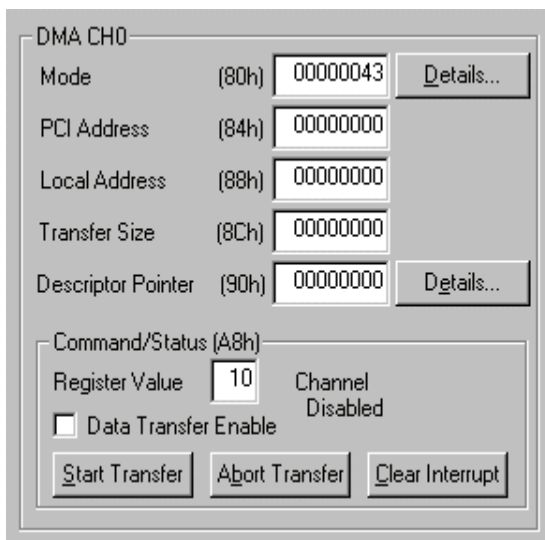
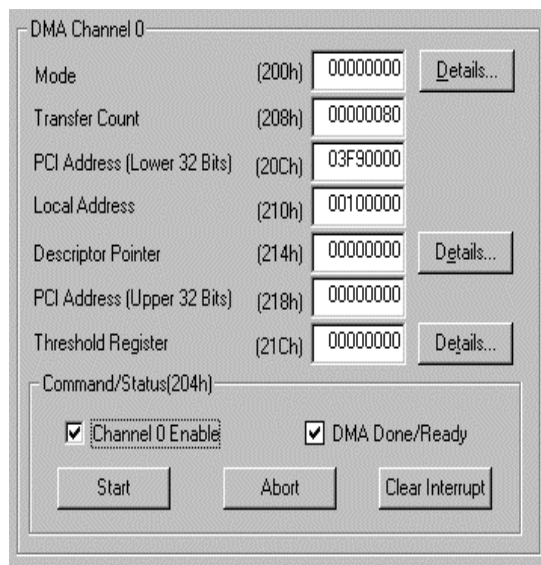

Figure 2-6. PCI 9080 and 9054 DMA Channel 0 Registers
Figure 2-7. IOP 480 DMA Channel 0 Registers
1. To set up the DMA transfer, some registers must be properly initialized. First click on the DMA button,  to display the registers to be modified. Set up the DMA transfer as shown in Figure 2-6.
3. The typical requirement for setting up the mode register is to set the Ready Input Enable and the bus width to 32 bits for PCI 9054 and PCI 9080 based RDKs (see Figure 2-6). These two combinations give the Mode register a value of 43(h). For the IOP 480RDK, the Mode register value can be 0 (see Figure 2-7). The Local Address given here is valid for all supported RDKs and is 100000(h). The Data Transfer direction is set within the Descriptor Pointer by clicking on the Details button, and setting the direction to "Local to PCI." The Threshold Register has a default value of 0.